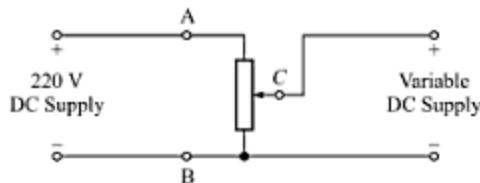

Fig. 1.11 Variable dc supply.
Variable DC Supply can be obtained by using a suitable **rheostat** (a variable resistance), as shown in Fig. 1.11. This arrangement has the disadvantage of incurring considerable power loss in the resistance.
(4) Rheostat It is a variable resistance made up of a closely wound wire of high resistivity (such as nickel-chromium-iron alloy) over a circular insulating (asbestos or porcelain) tube. These are available both in single-tube and double-tube configurations. A rheostat is specified in terms of its resistance and the maximum current it can carry. Normally, it is $1000\ \Omega$, $1.2\ A$ and $100\ \Omega$, $5\ A$. Rheostats are used as variable resistances and as potential dividers (as in Fig. 1.11).
(5) Loading Devices Commonly used loading devices are (*i*) lamp bank, and (*ii*) loading rheostats. A *lamp bank* consists of a number of 230-V lamps (100 W, 60 W, 40 W, etc.) suitably connected and controlled by switches to provide different loads. A *loading rheostat* consists of a number of identical resistive elements, suitably connected in series, parallel and combinations thereof.